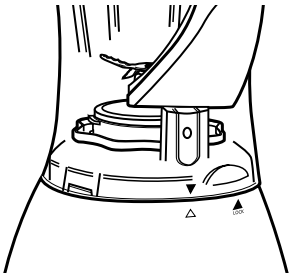

Fig 18
2. Position the blender onto the processor body above the speed control dial with the handle to the left. The solid grey arrow-▼ under the handle of the blending jug should be aligned with the light grey arrow-▲ on the food processor body, see Figure 18.